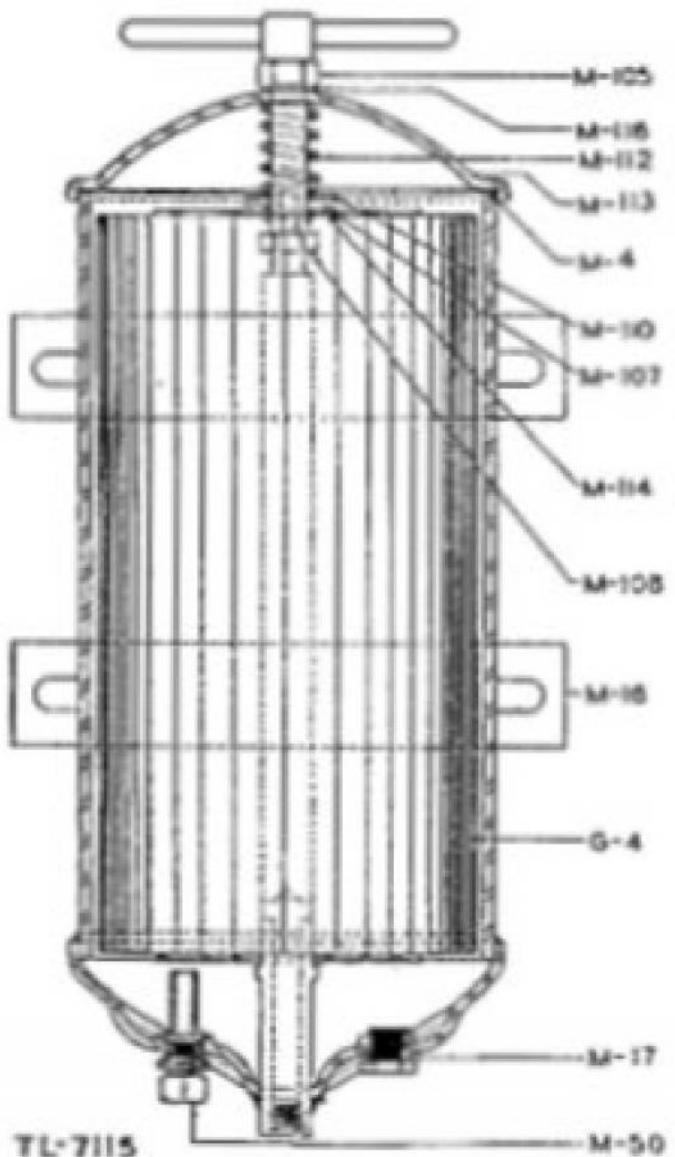

Figure 6. Zenith Carburetor.
c. Oil Filter. A replaceable, cartridge type, lubricating oil filter, or clarifier, is conveniently located on the left side of the engine. In operation, a quantity of oil is bypassed from the main circulatory system, through the filter element to the crankcase. (See fig. 6.)